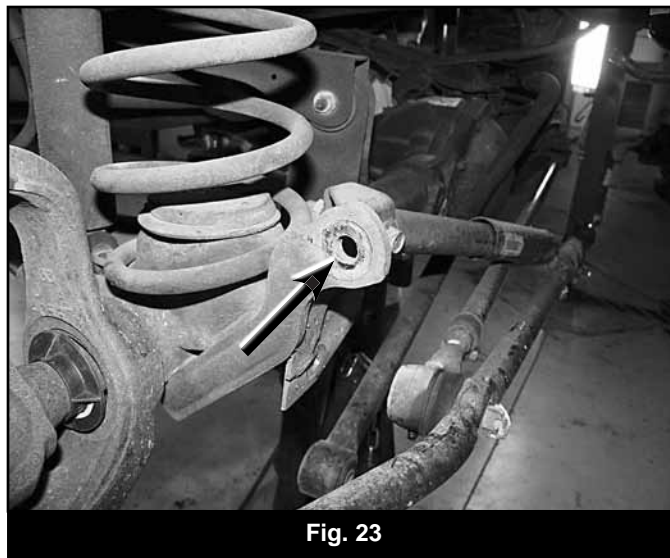

Fig. 23
63. Drill the OE lower sway bar link mount to 1/2" (Fig 23).